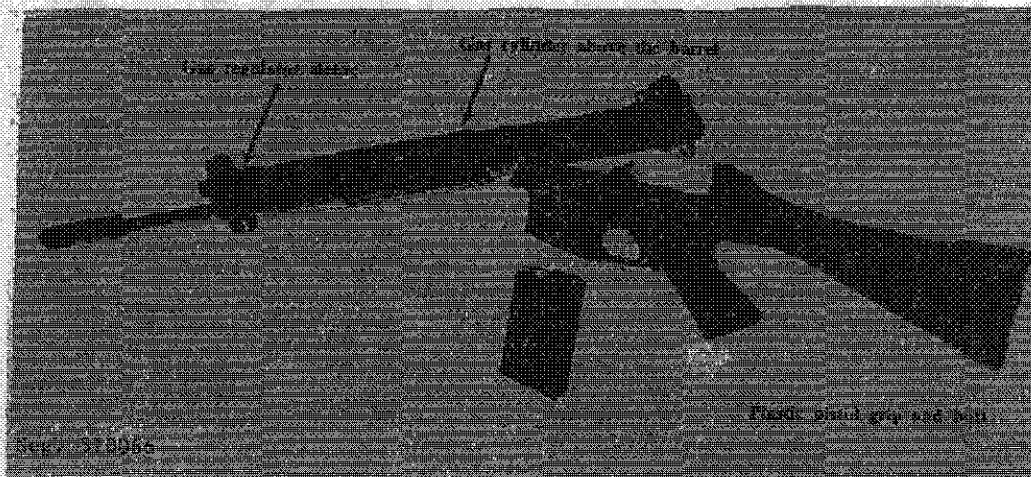

Figure 67. C.A.L. open for disassembly.
b. With the bolt forward, firmly pull the operating handle to the right; it will move about one-quarter of an inch. (If necessary, use a cartridge between the operating handle and receiver to pry the handle outward.) Press out the takedown pin to the right and swing open the weapon (fig 67). Pull the operating handle fully rearward (it should not have any spring tension), then pull it out of its slot in the receiver. Place a hand behind the